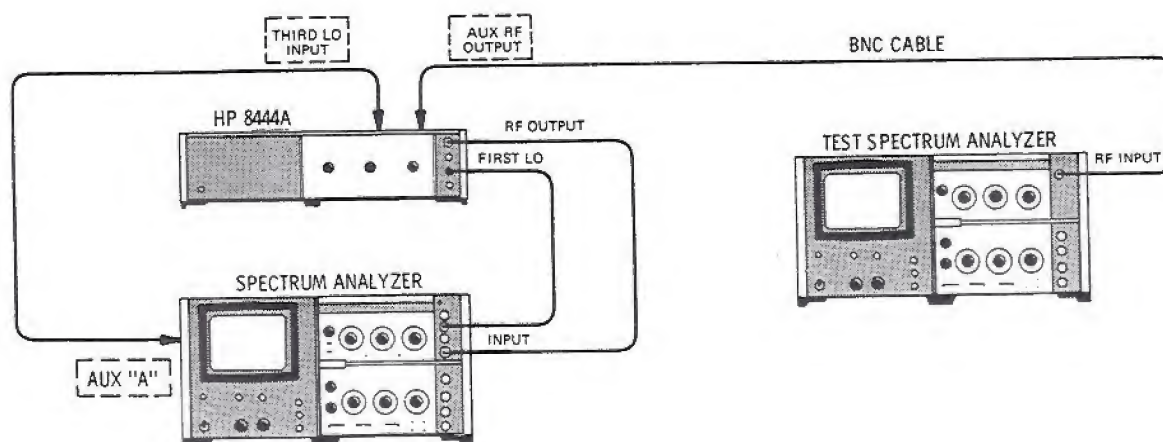

Figure 4-2. Residual FM Test Setup
2. Connect test setup as indicated in Figure 4-2 and make the following control settings: